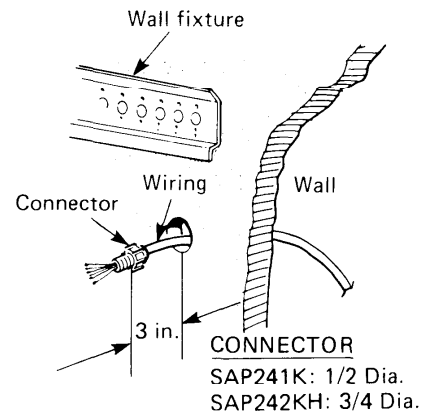

Fig. 12
- a) Insert the interunit wiring (according to local codes) into through-the-wall PVC pipe. Run the wiring toward indoor side allowing approx. 3 in. from the wall face. Fig. 12